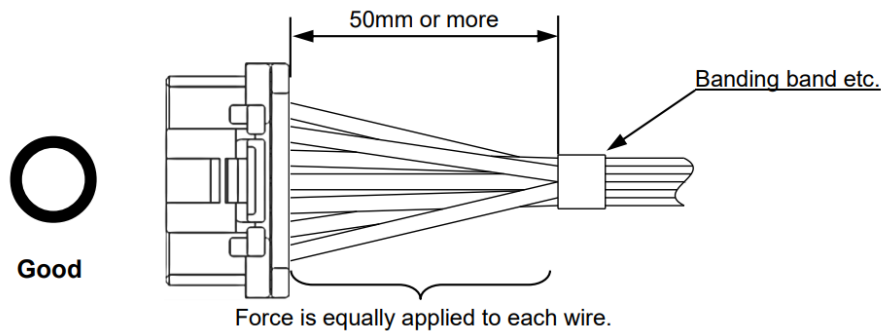

Fig. 5-3 Harness is bundled properly
- 1) Please bundle the wires at more than 50mm away from connector and uniformize the force applied to each wire. (Fig.5-3)